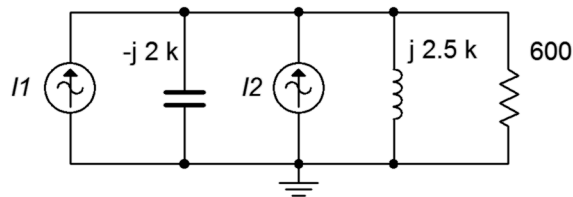

Figure 3.16
25. Determine the source voltage for the circuit shown in Figure 3.16. Assume I_1 is 1 mA at 0 degrees and I_2 is 2 mA at +90 degrees.
26. Determine the capacitor and inductor currents in the circuit of Figure 3.16. Assume I_1 is 1 mA at 0 degrees and I_2 is 2 mA at +90 degrees.